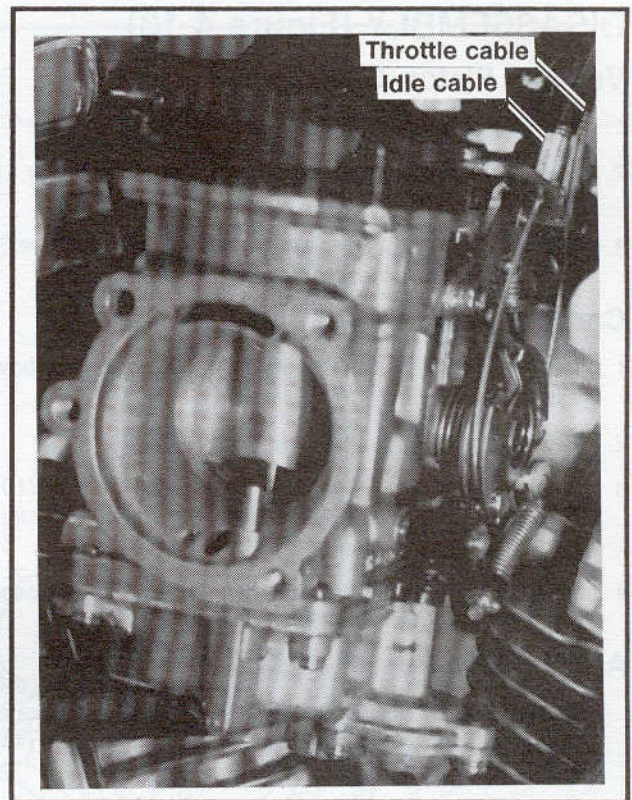

Figure 4-12. Throttle Cables
4. See Figures 4-12, 4-13. Disconnect the throttle cables and enrichener cable (19, 20, 21). Remove enrichener valve (22) and spring (23). See Section 2, THROTTLE CONTROL.
5. Remove vacuum hose from the carburetor. Pull carburetor free of seal ring and manifold (34).